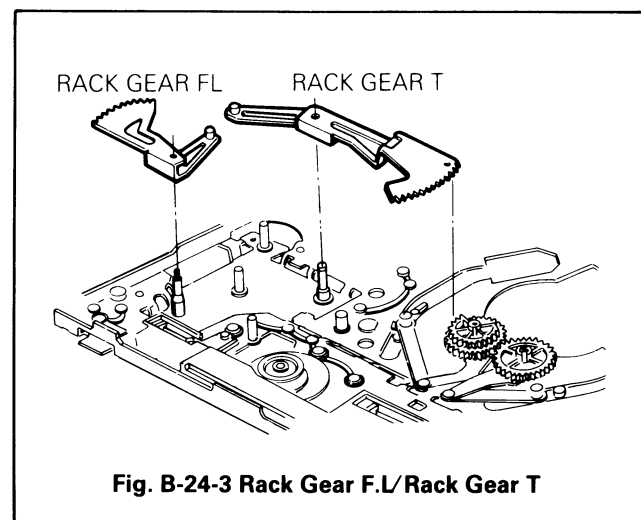

Fig. B-24-3 Rack Gear F.L/Rack Gear T
- 3) Remove the Rack Gear F.L. (Fig. B-24-3)
- 4) Remove the Rack Gear T. (Fig. B-24-3)